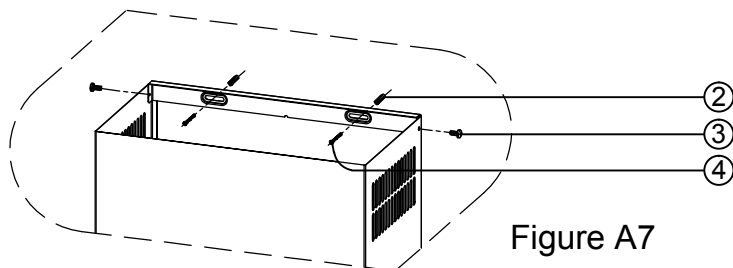

Figure A7
- 3- Screw the flue mounting apparatus to the wall by using 2x35 rysb(4) screws.
- 4- Lift the flue top and fasten to the flue mounting apparatus on sides by using 3,9x9,5 pan head screws(3) as shown in Figure A7 and complete the mounting works.